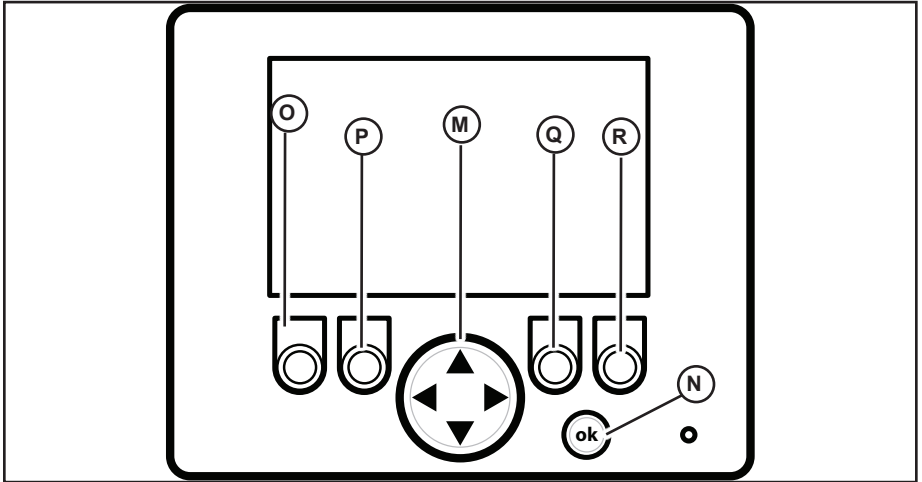

Fig. 8 - Information Center Electronic Display
<p>Quad Gauge Display</p> <p>Displays four different status parameters simultaneously. To change the displayed parameters, press and hold the ok button (N, Fig. 8) until orange bar (T) displays. Press the left/right side of navigation rocker button (M, Fig. 8) to select the parameter and press the top/bottom of navigation rocker button to change the selected parameter. Press the ok button again to dismiss orange bar (T).</p>
<p>Single Gauge Display</p> <p>Displays single real time operating parameters. Switch between parameters using the navigation button (M, Fig. 8). Used for various functions, depending upon screen and context.</p>
All Secondary Screens	<p>Secondary screens are accessed by holding down the ok button (N, Fig. 8) for 10 seconds while the Dual Gauge Display screen is displayed. Press the left/right side of navigation rocker button (M, Fig. 8) to switch between secondary screens.</p>
<p>Units Screen</p> <p>Press the top/bottom of navigation rocker button (M, Fig. 8) to switch between SAE or metric units for values displayed in screens.</p>
<p>Language Screen</p> <p>The press the top/bottom of navigation rocker button (M, Fig. 8) to switch between English or Spanish language for values displayed in screens.</p>